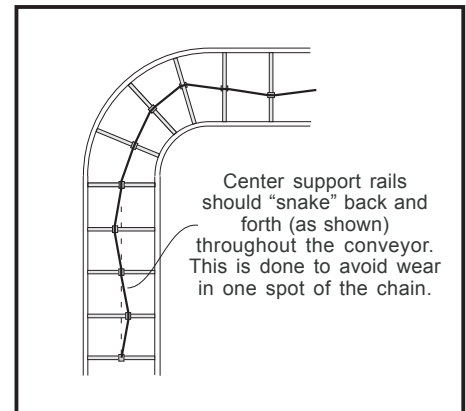

Figure 55
- Center support rails should “snake” back and forth throughout the length of the conveyor, as shown in *Figures 55 and 56*, to avoid wear in one particular spot under the chain.
Figures 55 and 56 are shown as typical examples; actual layout and appearance of center support rails for specific applications may vary.